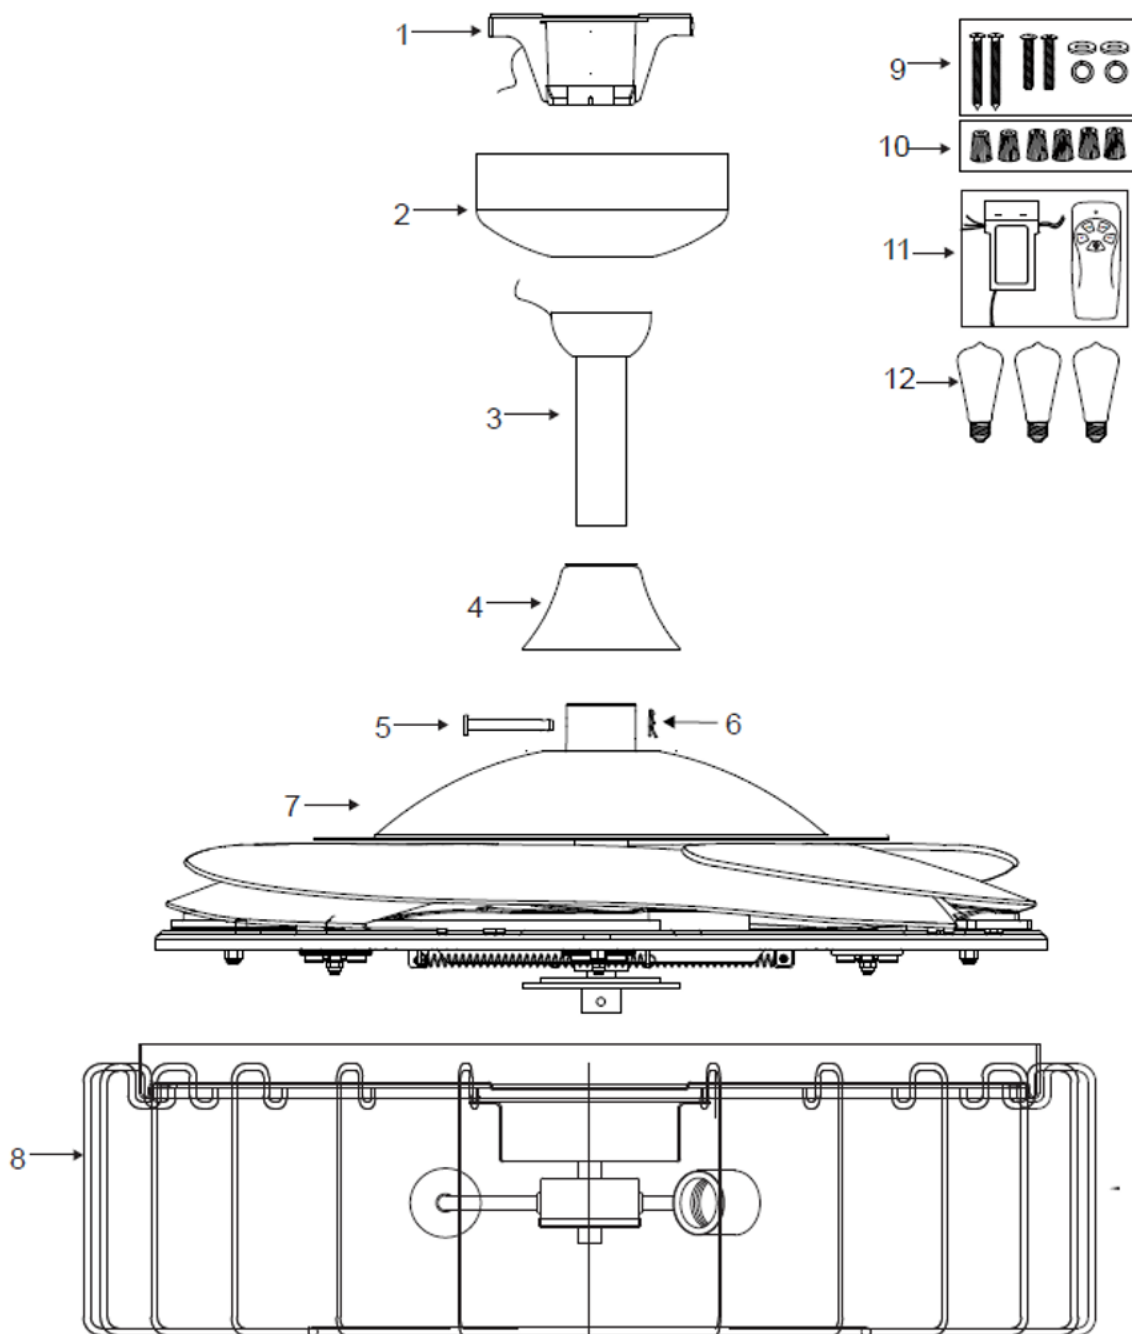

Fig. 1
- Examine and identify the parts. Please refer to Fig 1.